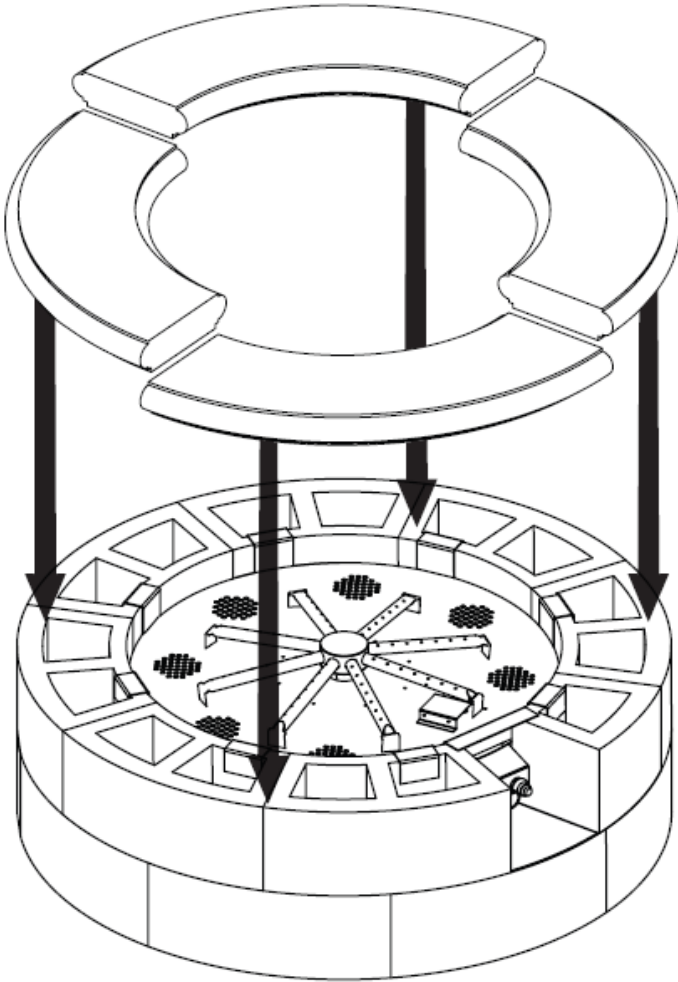

Figure 16 - Concrete Cap
12. Place concrete cap on the top layer of blocks. Center cap on block. Level and shim if necessary (See Figure 16).